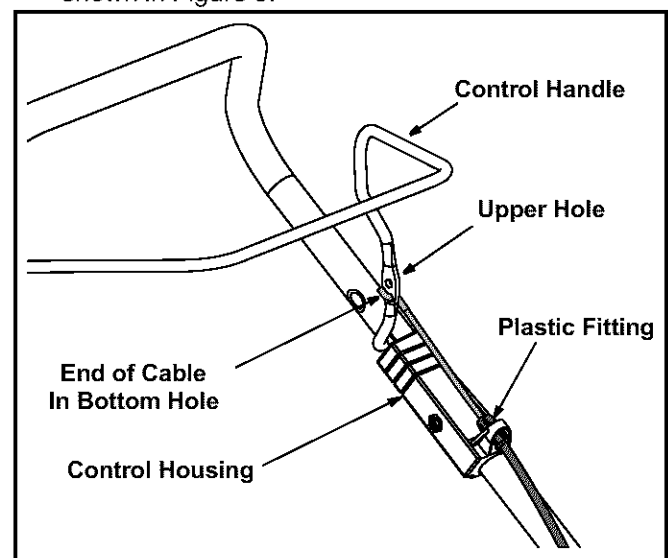

Figure 3
- Pivot the control handle forward and insert the end of the control cable into the **bottom** hole in the control handle, from the outside to the inside, as shown in Figure 3.
The upper hole in the control handle provides for an adjustment in cable tension. To adjust, disconnect the end of control cable from the bottom hole in the control handle and reinsert it in the upper hole. Refer to Figure 3. Test the snow thrower to see if there is a noticeable difference.